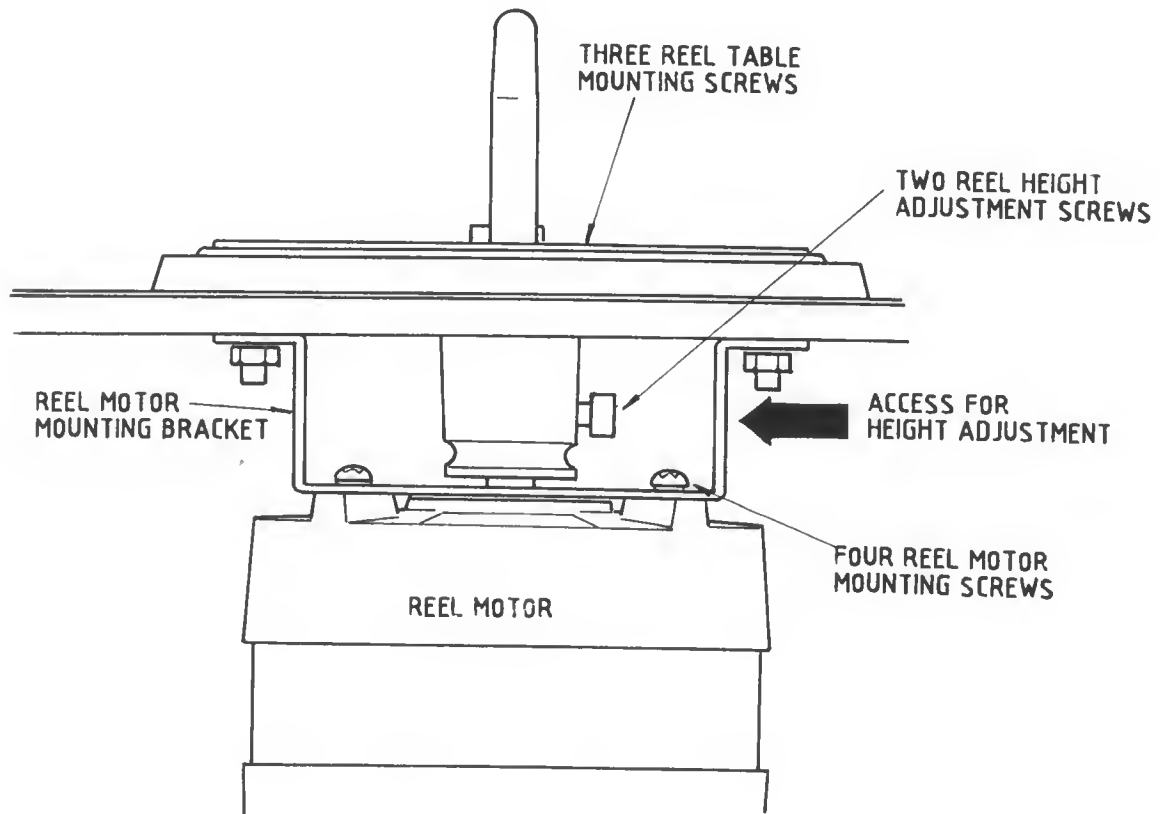
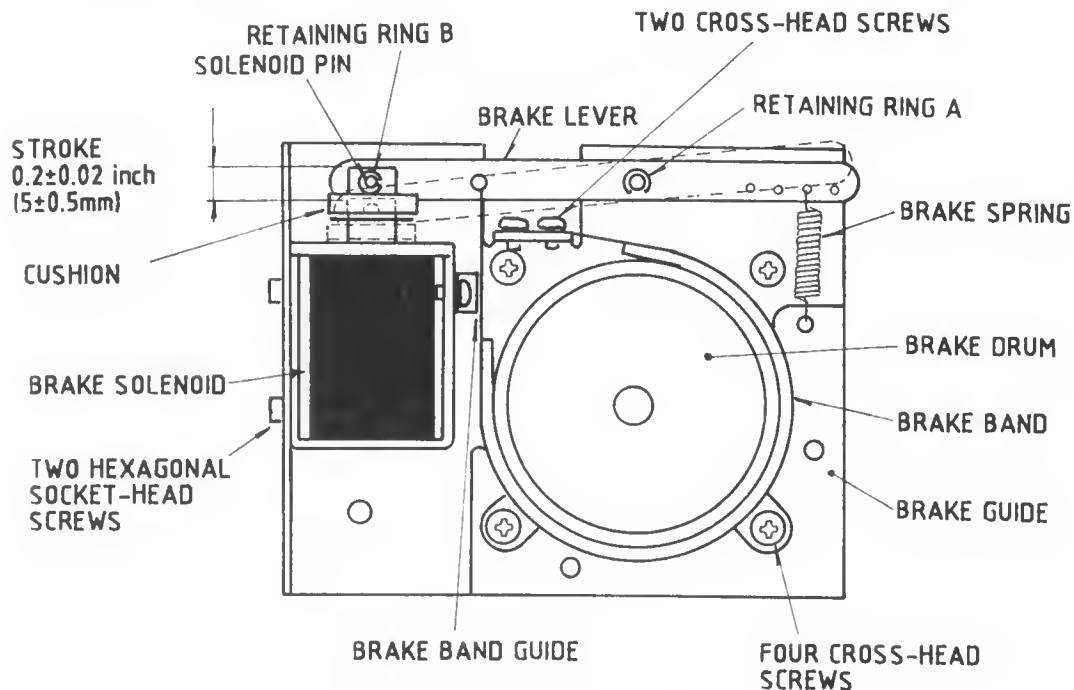

Fig. 6-8 Reel Motor Mounting
Fig. 6-9 Brake Assembly
The reel table may be removed by removing the three cross-head screws accessible from the front of the transport. To adjust the reel table height, loosen the two hexagonal socket-head screws shown in Fig. 6-8, adjust the height and retighten the screws.
- (1) Loosen the two hexagonal socket-head screws on the reel shaft holder (Fig. 6-8) and remove the reel table and holder.
- (2) Tag and unsolder the motor leads attached to the printed circuit board.
- (3) Remove the four motor mounting cross-head screws, accessible from the front of the transport.
- (4) Remove two capscrews holding brake drum on to the reel motor shaft and take out the brake drum.
- (5) Remove the brake assembly by removing the four brake assembly mounting screws on the bottom of the reel motor as shown in Fig. 6-9.
When a new brake band or new brake solenoid is installed (Fig. 6-9), it is necessary to position the brake guide and/or brake solenoid to ensure that is uniform brake band clearance around the brake drum when the solenoid is energized.